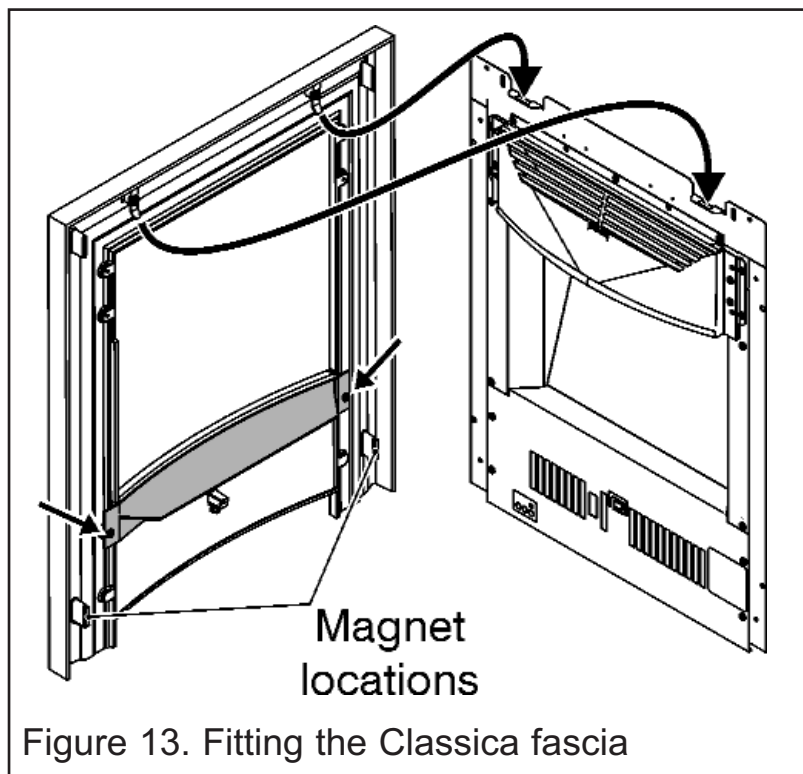

Figure 13. Fitting the Classica fascia
2. There are two magnets on the lower raised areas of the fascia (See figure 13). Ensure that they are located correctly before fitting the fascia.
3. Supplied with the fascia is a black decorative moulding. Remove the two screws from the rear of the fascia (See figure 13), locate the moulding and secure using the two screws removed previously.
4. Hold the fascia firmly and lift into place. Keeping the magnets away from the body of the heater, locate the fascia hanging brackets into those on top of the heater (See figure 13). Lower the fascia into place and swing the bottom of the fascia towards the heater to engage the magnets.